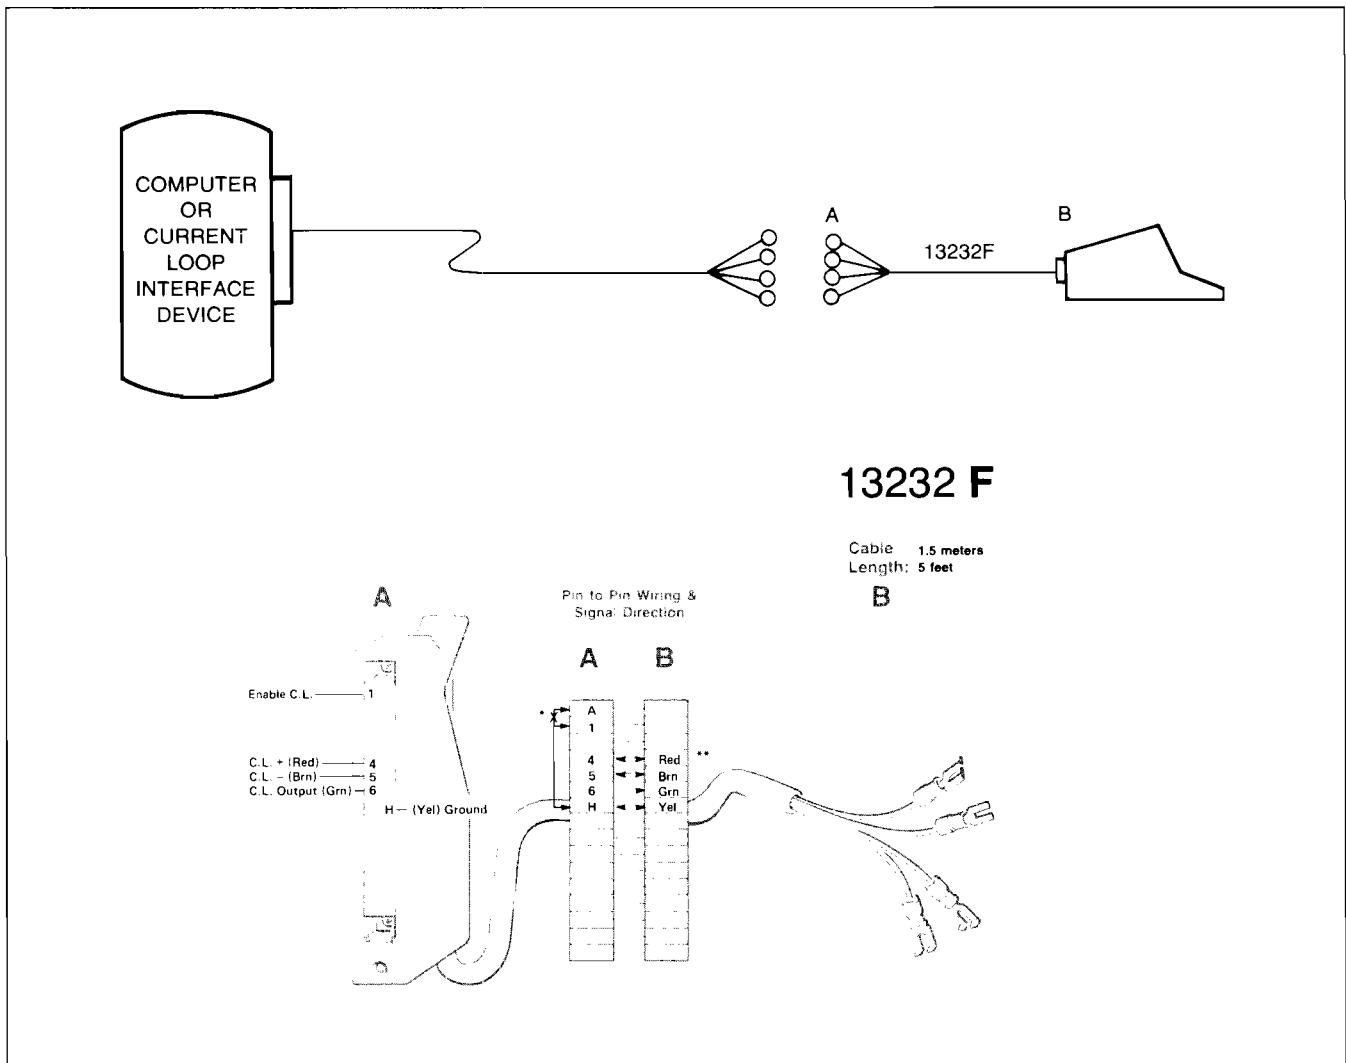

Figure 1-25. Connecting the Terminal in a Current Loop Configuration
To connect the terminal in a current-loop configuration, refer to figure 1-25 and perform the following:
3. Connect an HP 13232F cable from the terminal to the current loop interface device. Refer to figure 1-25.